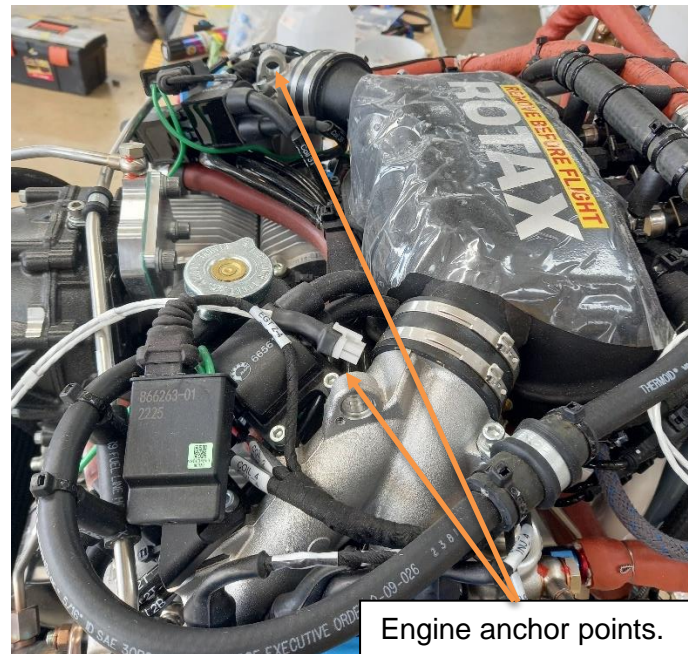

Figure 9: Rotax 915 iS engine anchor points
- Step 3: Before any bolts are removed the engine must be supported. This is to prevent the engine from getting damaged should it drop during the bolt removal, as well as to relieve some strain on the bolts for easy removal. The engine can be supported by the anchor points located on the top of the engine, as shown in Figure 9.